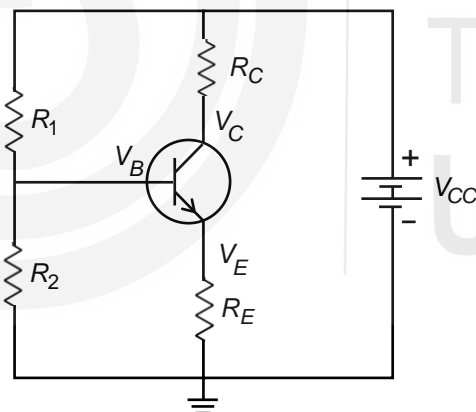

Fig. 4.11: Universal bias for an  $n$ - $p$ - $n$  transistor in common emitter configuration.
Universal bias is the biasing method most widely used for linear operation of the transistor (see Fig. 4.11). It is also known as the voltage divider circuit because the resistances  $R_1$  and  $R_2$  in Fig. 4.11 form the voltage divider. In this biasing method, only one battery or dc power source is required. It uses four resistors and provides a stable operating point.
Note from Fig. 4.11 that the voltage across  $R_2$  forward biases the emitter diode. In this biasing method, the Q point is independent of the dc beta gain. Let us explain how. If the current gain ( $\beta_{dc}$ ) increases, the collector current ( $I_C$ ) increases. This results in an increase in the emitter current  $I_E$  and, hence, the voltage drop across  $R_E$  increases. From the input circuit in Fig. 4.11, you can see that resistors  $R_1$  and  $R_2$  form a voltage divider across the dc power supply  $V_{CC}$ , and the current  $I_1$  through these resistors is usually selected to be about one-tenth of the collector current. Since the base current is small, the current through  $R_2$  can also be taken as  $\sim I_1$ . So, the voltage across  $R_2$  is
Calculate the dc voltages (base voltage, emitter voltage, collector voltage and collector to emitter voltage) and collector and emitter currents for the universal bias circuit of Fig. 4.11 given that  $R_1 = 40\text{ k}\Omega$ ,  $R_2 = 5.0\text{ k}\Omega$ ,  $R_C = 5.0\text{ k}\Omega$ ,  $V_{CC} = 12\text{ V}$  and  $R_E = 1.0\text{ k}\Omega$ . Take  $V_{BE} = 0.3\text{ V}$  for the transistor used. Hence, locate the Q point.
For the circuit given in Fig. 4.11, state if the following quantities will increase or decrease if  $R_1$  is increased by 50%?
- Calculate the base voltage, emitter voltage, collector voltage, collector to emitter voltage, and collector and emitter currents for the universal bias circuit of Fig. 4.11 given that  $R_1 = 45\ \text{k}\Omega$ ,  $R_2 = 5.0\ \text{k}\Omega$ ,  $R_C = 5.0\ \text{k}\Omega$ ,  $V_{CC} = 15\ \text{V}$  and  $R_E = 1.0\ \text{k}\Omega$ . Take  $V_{BE} = 0.3\ \text{V}$  and hence, locate the Q point.